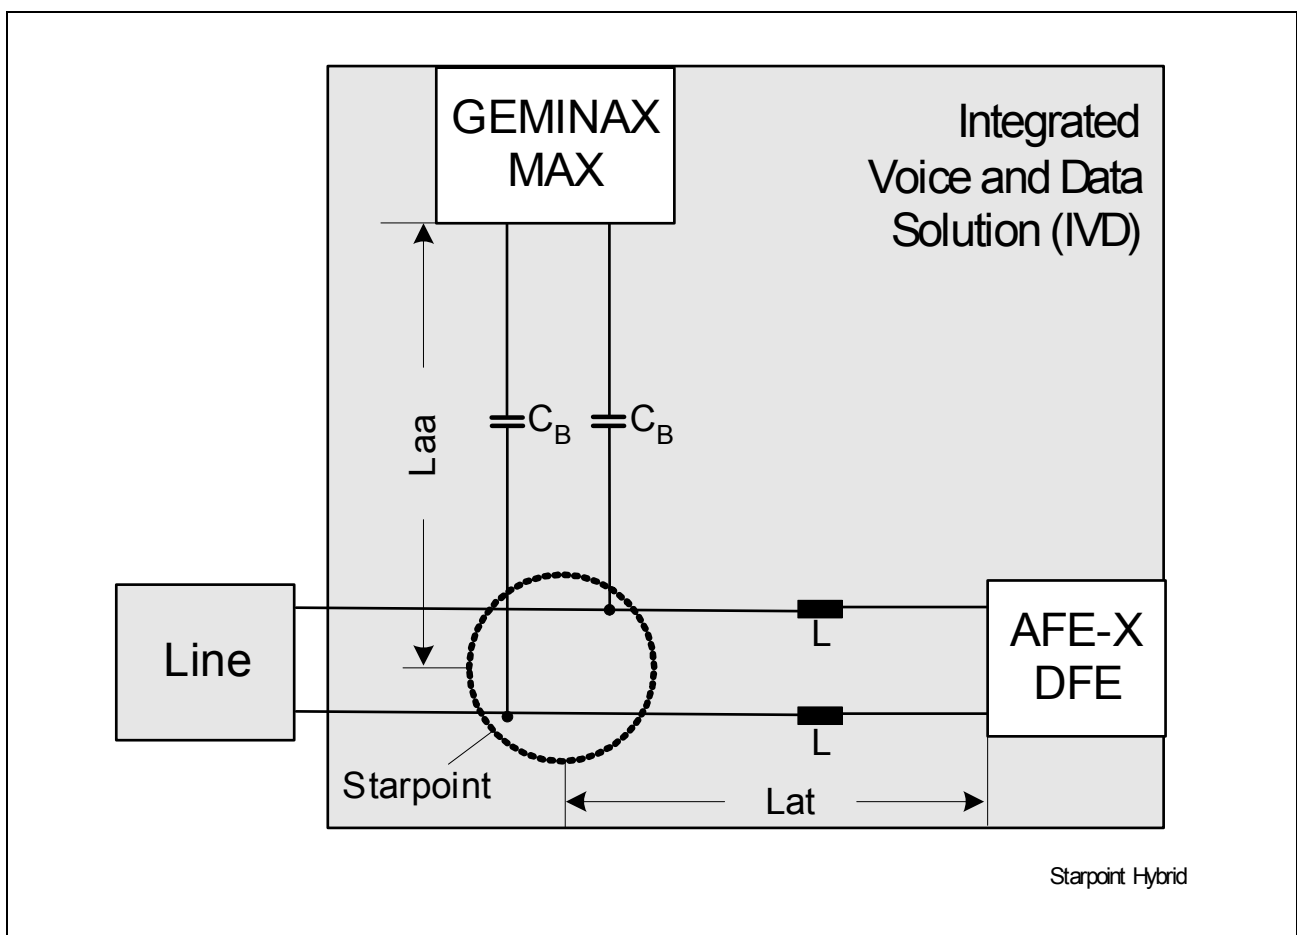

Figure 13 Starpoint Hybrid
2. Z_{ADSL-I} does not include the blocking capacitors C_B , which are part of the starpoint hybrid (see Figure 13).